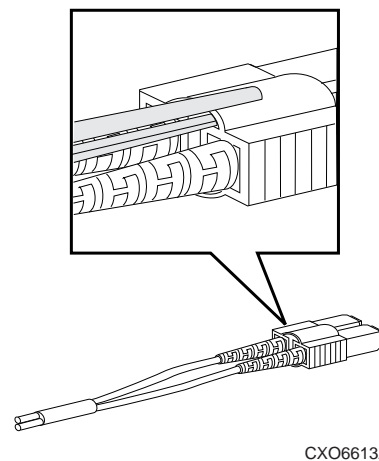

Figure 2. Using Pliers to Remove a Fibre Optic Cable
5. Disconnect the host bus cables from the controller using needle nose pliers (see Figure 2).